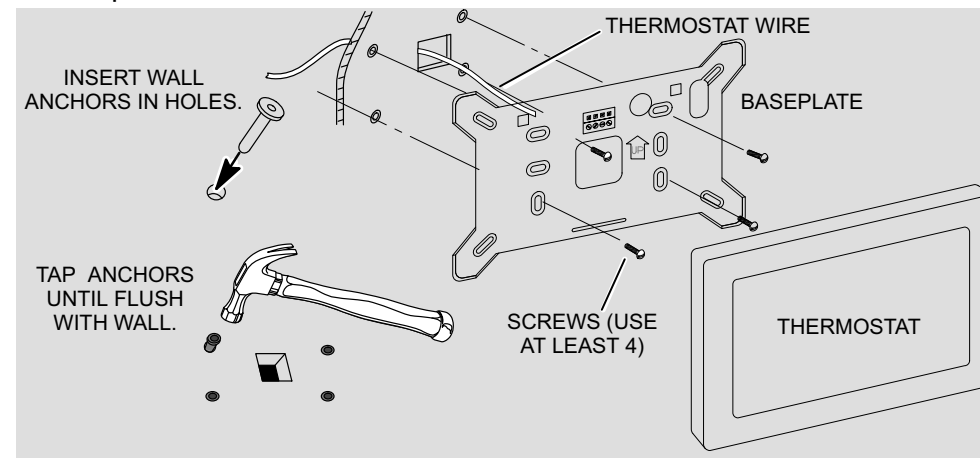

Figure 2. On-wall mounting
- B. Drill (4) 3/16" holes in wall for anchors. Insert wall anchors in holes (see figure 2) and tap the anchor until flush with the wall.